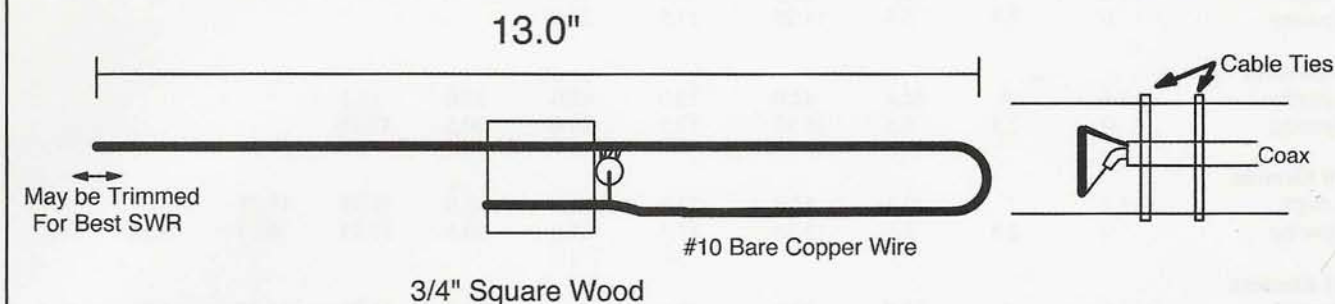

Figure 1. (Left) The driven element using #10 copper wire; (right) securing the coax to the boom.
The elements are made from Radio Shack aluminum ground wire. A 40-foot roll will make a lot of antennas for about \$5.00. You can use #10 bare copper wire, or most any 1/8-inch diameter wire. If you must use 3/16-inch wire or rod for the elements, leave the reflector the same length, but make the directors 0.2 inch shorter. The driven element is made of #10 bare copper wire (photo B and figure 1). The driven element is a lot easier to build if you can just solder the coax to it. Elements are secured with a drop of glue or an overcoat of paint.
**Driven element for all versions see figure 1.